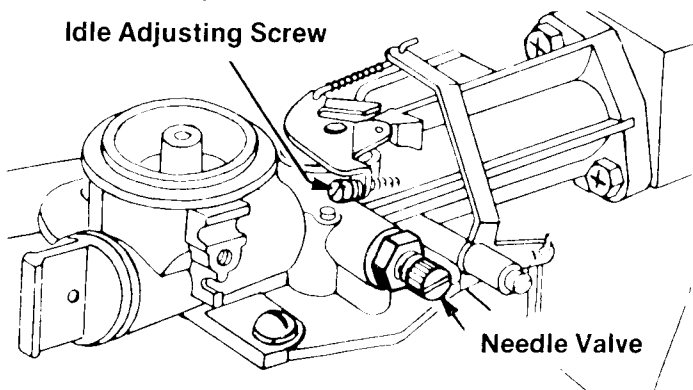

FIGURE 46.
A. **INITIAL ADJUSTMENT.** See figure 46. Close needle valve (turn clockwise) then open 1½ turns (turn counterclockwise). This initial adjustment will permit the engine to be started and warmed up before making final adjustment.
B. **FINAL ADJUSTMENT.** See figure 46. With engine running at fast operating speed (approximately 3,000 RPM without load) close the needle valve (turn clockwise) until engine starts to lose speed (lean mixture). Then slowly open needle valve (turn counterclockwise) past the point of smoothest operation until engine just begins to run unevenly. This mixture should be rich enough for best performance under load. Hold throttle in idling position. Turn idle speed adjusting screw until fast idle is obtained (1,750 RPM). Test the engine and if it tends to stall or die out, it usually indicates that the mixture is slightly lean and it may be necessary to open the needle valve slightly to provide a richer mixture. This richer mixture may cause a slight unevenness in idling.